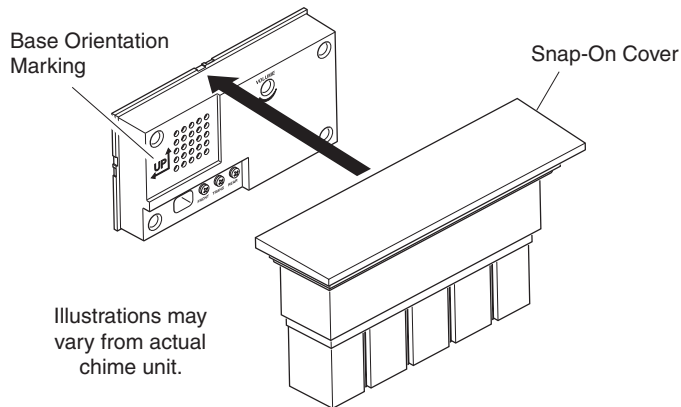

Figure 4 - Mounting Snap-On Type Cover
- **For snap-on type cover:** Apply pressure to the cover until it snaps into place (see Figure 4). Firmly grasp cover and pull to remove from base.